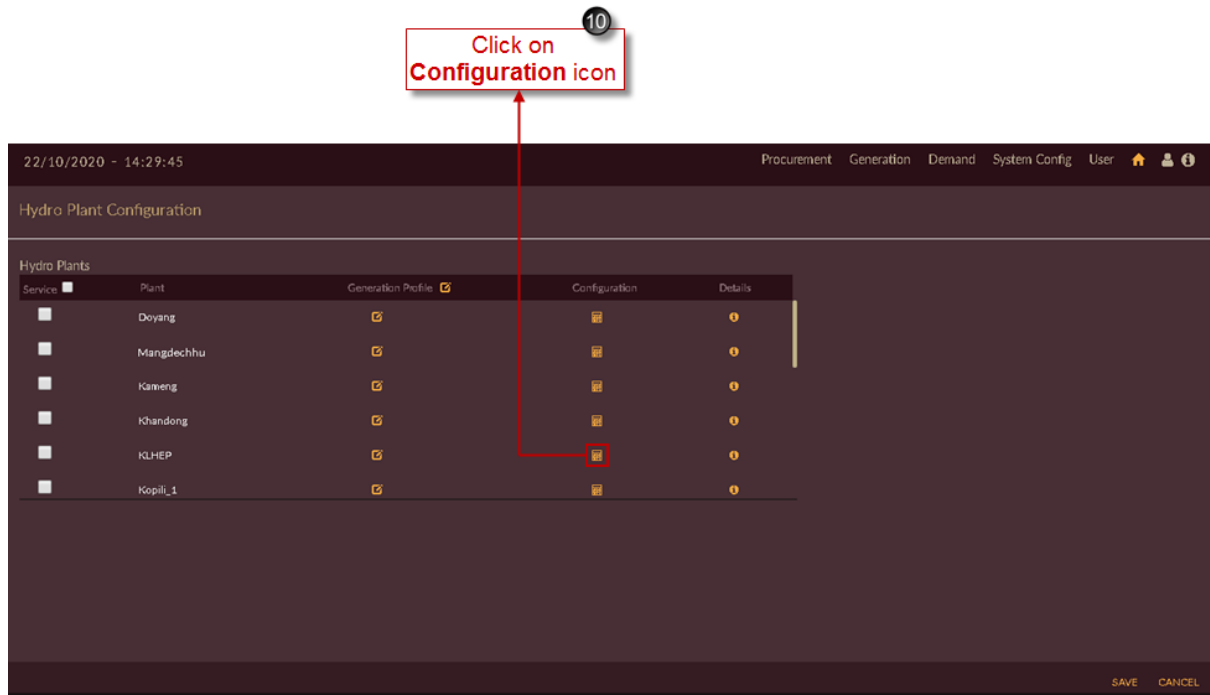

Figure 205. Configuring Hydro Plants for IRM scenario
10. Click on **Configuration**  icon of respective hydro plant to configure it into IRM Basecase scenario. Here KLHEP Hydro plant is selected in Figure 205.